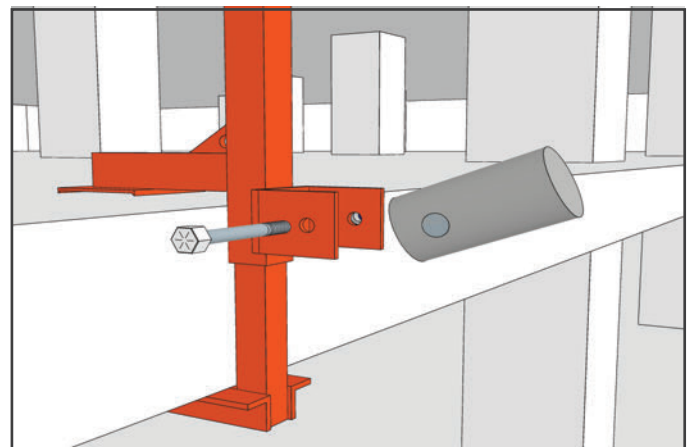

Fig. 8
2. Attach all other Swivel Couplers to remaining Slab Brackets. (see figure 8)